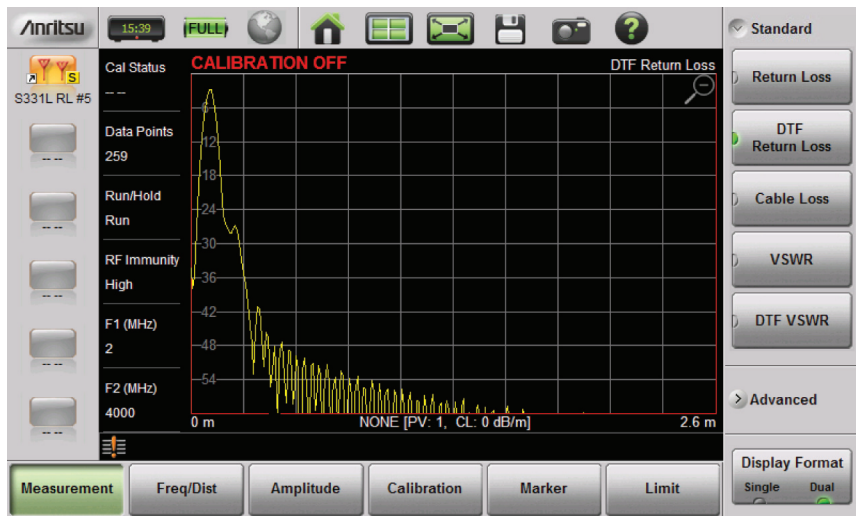

Figure 2-14. Dual Display Format with Top Display Maximized
5. Figure 2-14 on page 2-23 shows the Top graph maximized. Tapping on the magnifying glass will restore the dual display.